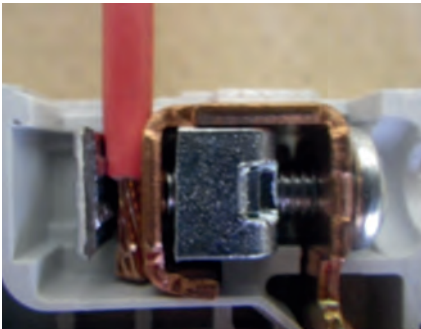

Fig 4. Termination made incorrectly as a result of insulation being trapped in the terminal clamp
- Strip insulation sufficient to allow conductor(s) to enter terminal fully and ensure that insulation is not trapped in the termination (see Fig 4) – many manufacturers give a recommended strip length.